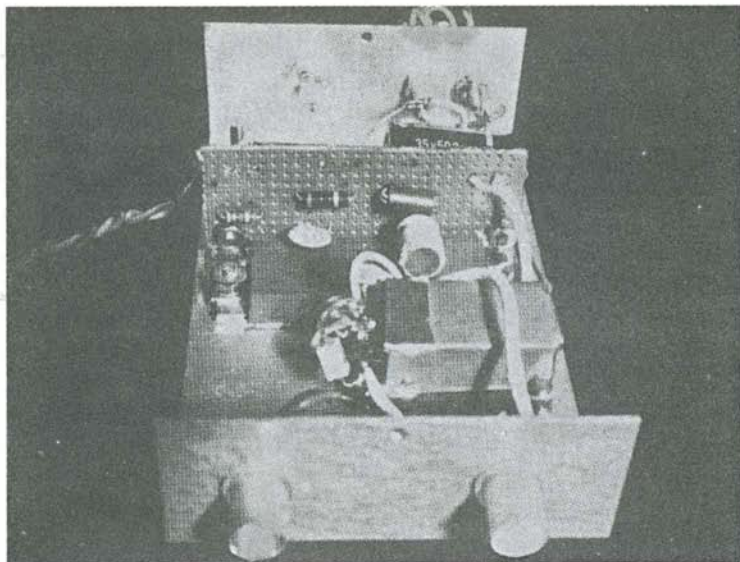

Fig. 6-59. PC board, prototype shown.
3. Using two #4-40 screws, lockwashers and nuts, bolt PC board on two "L" brackets as shown in Figs. 6-59 and 6-60.